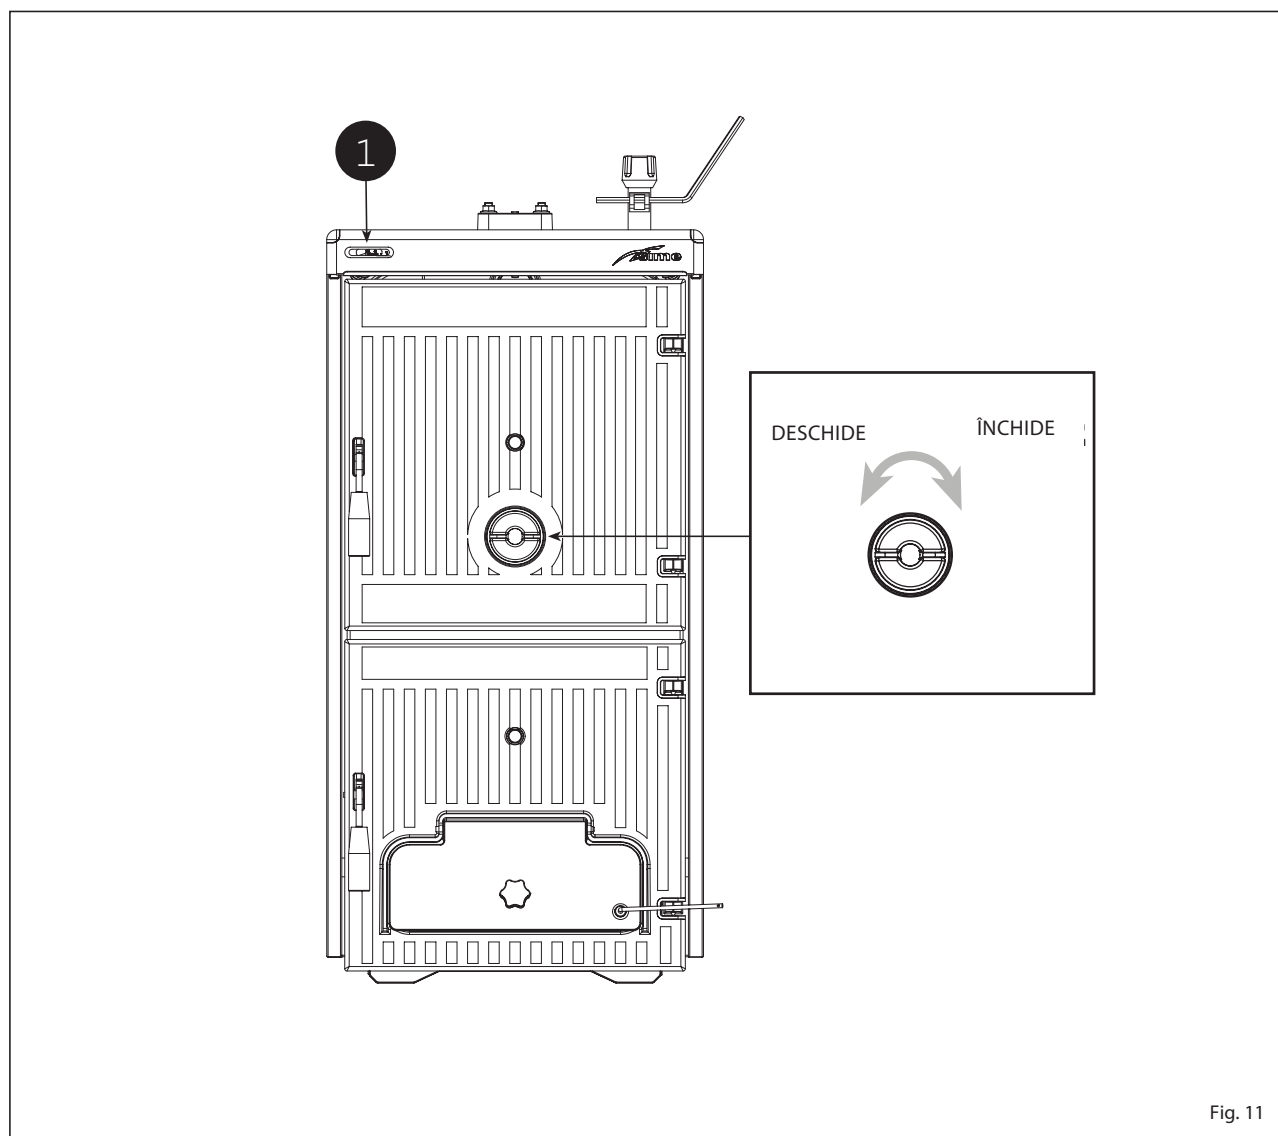

Fig. 11
5.2 TERMOMETRUL CAZANULUI (fig. 11)
5.3 REGLAREA CANTITATII DE AER (fig. 11)